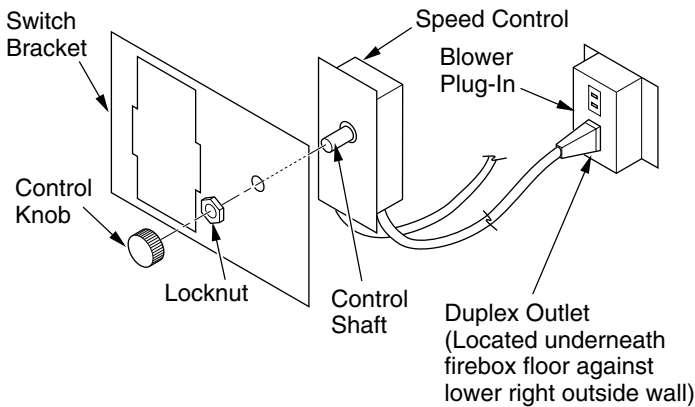

Figure 26 - Attaching Speed Control to Firebox
5. Mount speed control box to switch bracket by placing the plastic control shaft forward through the round opening in the switch bracket (see Figure 26, page 17).
5. Mount the speed control box against the mounting plate provided in the lower fireplace cavity by placing the plastic control shaft forward through the round hole (see Figure 26).
6. While supporting speed control, secure control shaft with lock nut by pushing and turning lock nut with pliers clockwise until it is tight against mounting plate. Place control knob provided on shaft (see Figure 26).